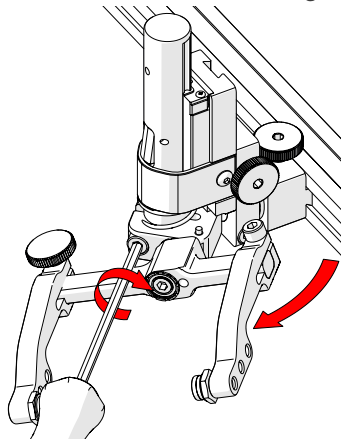

Fig. 133 - Rotate and tighten
3. Tighten the transverse adjustment screw (*Fig. 133*).